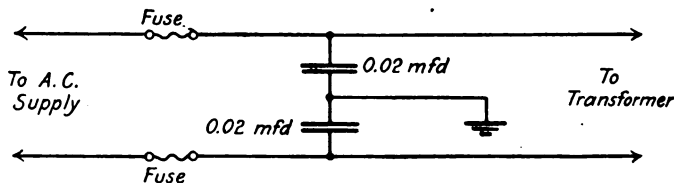

Fig. 28.—The Circuit of a Protecting Device for 110-Volt Supply Lines.
C. Protective devices. The underwriters' rules call for a protective device to prevent surges from the transformer back into the live. Fig. 28 gives the connections for a single and satisfactory type.